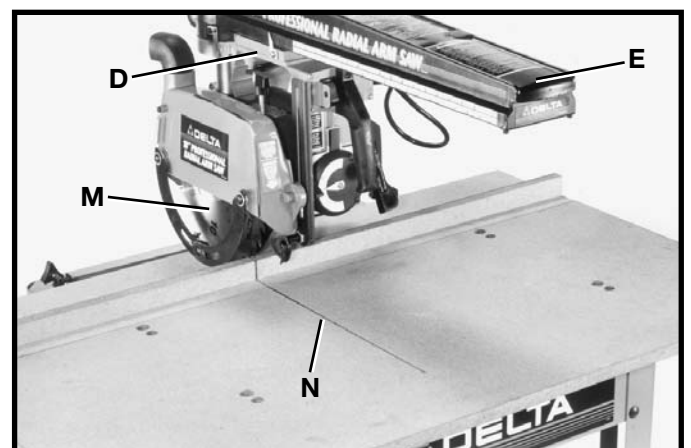

Fig. 51
5. Once saw blade (M) Fig. 51, has come to a complete stop, return cutting-head (D) to rear of track arm (E) as shown. Fig. 51, illustrates saw kerf (N) cut into table boards.
IMPORTANT: THE TRACK ARM (E) FIG. 51, MUST BE RAISED BEFORE ATTEMPTING TO ROTATE IT. ALSO, THE PROCEDURE "CUTTING INTO TABLE BOARDS" MUST BE PERFORMED FOR EACH ANGLE CUT DESIRED.